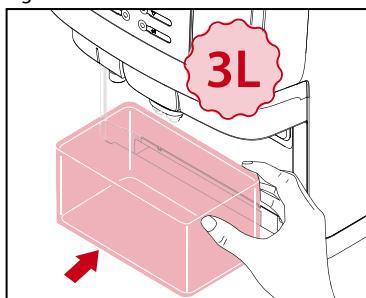

Fig.19
3. Remove the drip tray and place a 3 liter / 3 quart container (see Fig.19) under the outlets, then press **ENTER**. Follow the instructions on the display: **PRESS ENTER TO FLUSH**